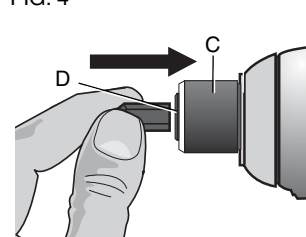

FIG. 5
To remove an accessory, pull the chuck collar (C) away from the front of the tool. Remove the accessory and release the collar (Fig. 5).